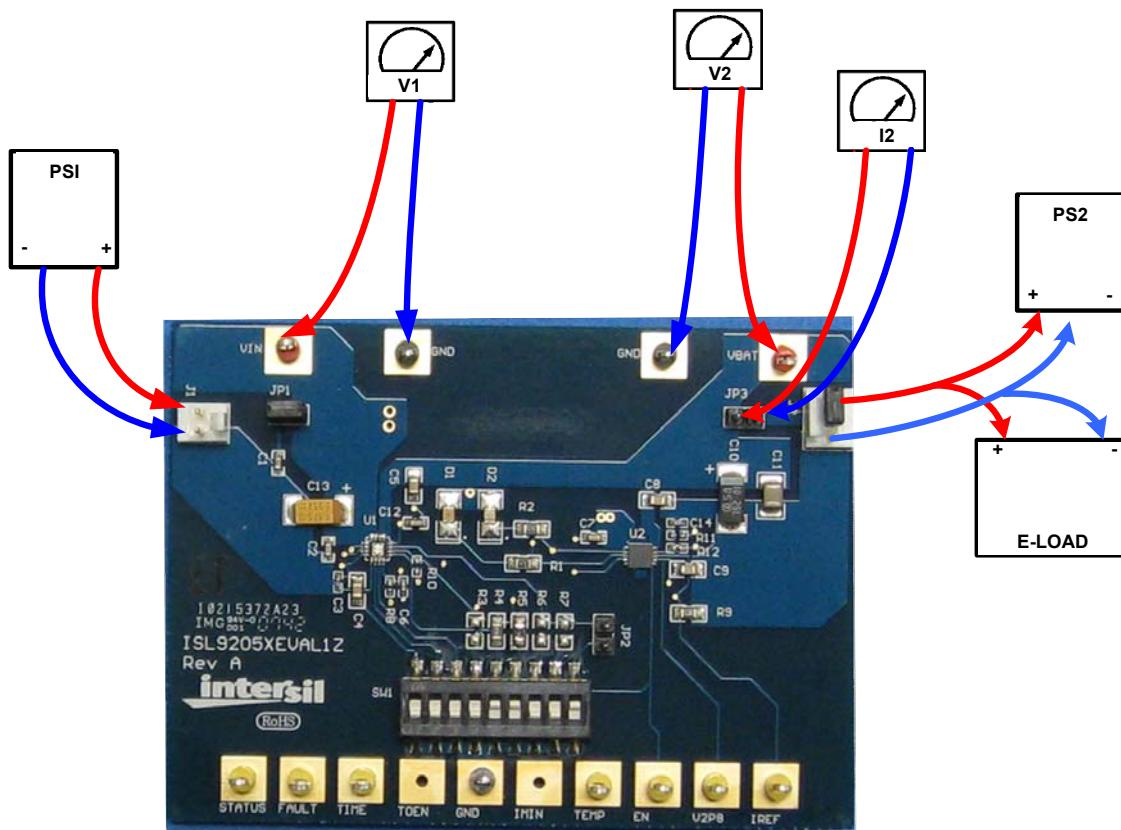

FIGURE 1. CONNECTION OF INSTRUMENTS
Quick Setup Guide (Refer to Figure 1)**DO NOT APPLY POWER UNTIL STEP 8**
- Step 2: Insert a jumper shunt between pins 2 and 3 of J2, as shown in Figure 1
- Step 3: Connect a 3.7V supply PS2 to J2 as shown in Figure 1, with the current limit set at 1.2A
- Step 5: Connect amp-meter I2 as shown in Figure 1